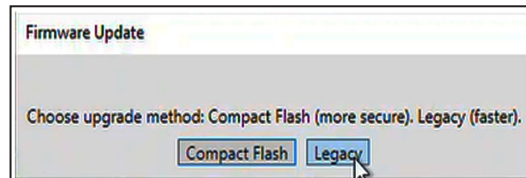

Figure 34. The Firmware Update dialog box.
**STEP 21.** The Firmware Update dialog box may ask about the MCU OS revision. Click on the **Yes** button if this box appears. See Figure 34.